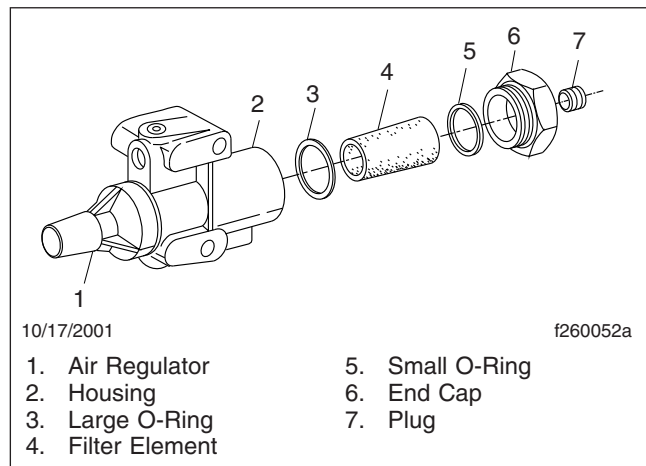

Fig. 5, Eaton Fuller Transmission Air Filter/Regulator Components
3. Remove the end cap, large O-ring, and filter element from the filter housing. See Fig. 5. Remove the small O-ring from the end cap.